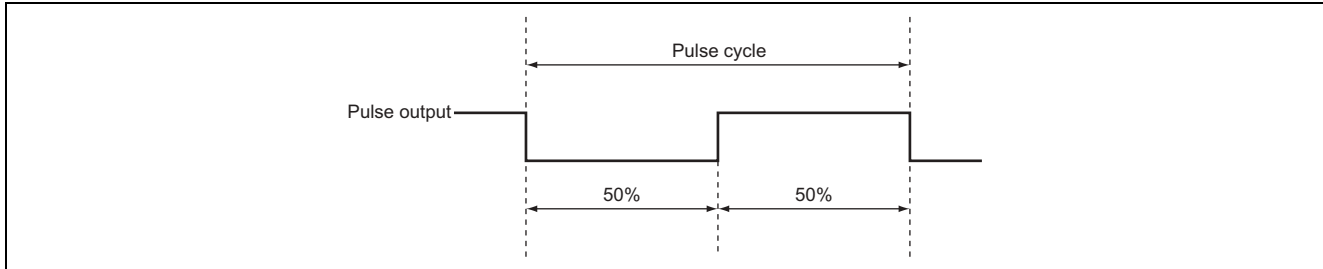

Figure 1 Example of Pulse Output
- (1) Outputs a pulse train with a 50% duty cycle as shown in figure 1. The period is set by cycle data in RAM.
- (2) When the microcomputer is operating at 20 MHz, the cycle of the pulse for output can be set as desired to values between 100 ns and 3.27 ms.